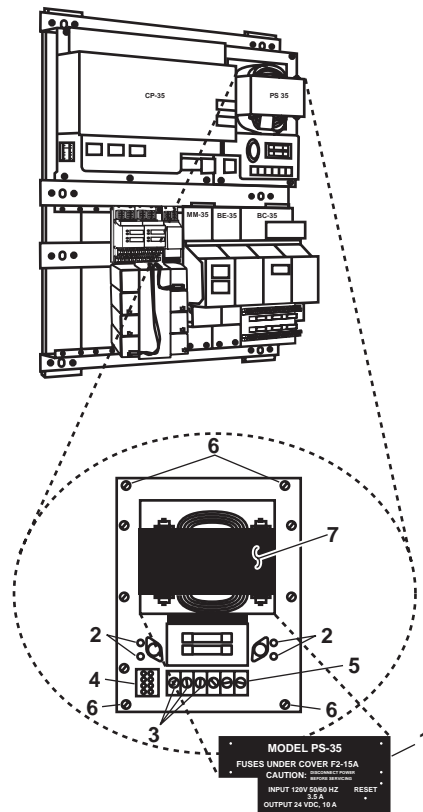

Figure 1. Power Supply PS-35 Replacement
2. Remove the fuse cover (figure 1, item 1) from the plastic retaining pins (figure 1, item 2).
3. Take voltage readings with a multimeter at the PS-35 TB-1 terminals 1, 2, and 3 (figure 1, item 3). If voltage is present, verify that the correct circuit breakers are OFF, locked out, and tagged out (FM 55-502). If no voltage is present, continue with the procedure.
2. Label and disconnect the wiring from terminal P1 (figure 1, item 4) and TB1 (figure 1, item 5).
3. Remove the four screws (figure 1, item 6) that secure power supply PS-35 (figure 1, item 7), and remove it from the enclosure.
1. Position power supply PS-35 (figure 1, item 7) in the enclosure and secure it in place with the four screws (figure 1, item 6).
2. Connect the wiring to P1 (figure 1, item 4) and TB1 (figure 1, item 5) using the labels from step 2 of Removal as a guide. Remove the labels.